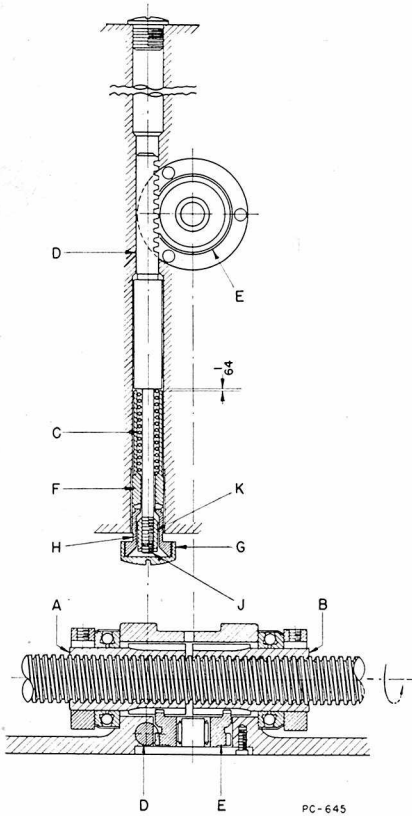
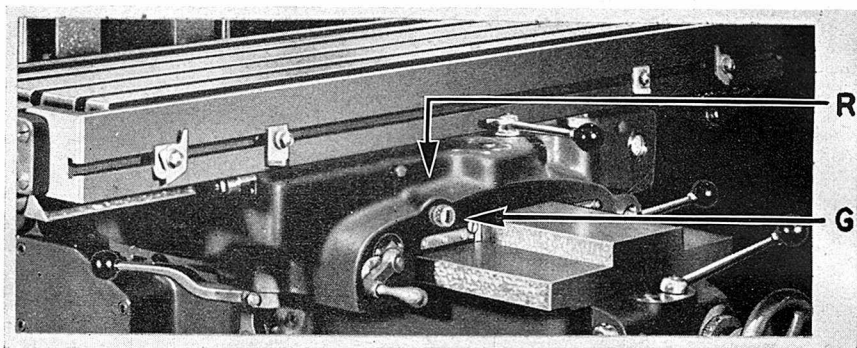

Figure 48
Figure 49
The backlash eliminator device, shown diagrammatically in Fig. 48, is required for down-milling operations, and may be purchased at extra cost with the machine. It is entirely within the saddle beneath the table, the only indication being knob "G" at the front of the saddle casting (Fig. 49).
2. Loosen set screw "R", Figure 49.
3. Remove cap "G", screw "H", lock screw "J", and nut "K", Fig. 48.